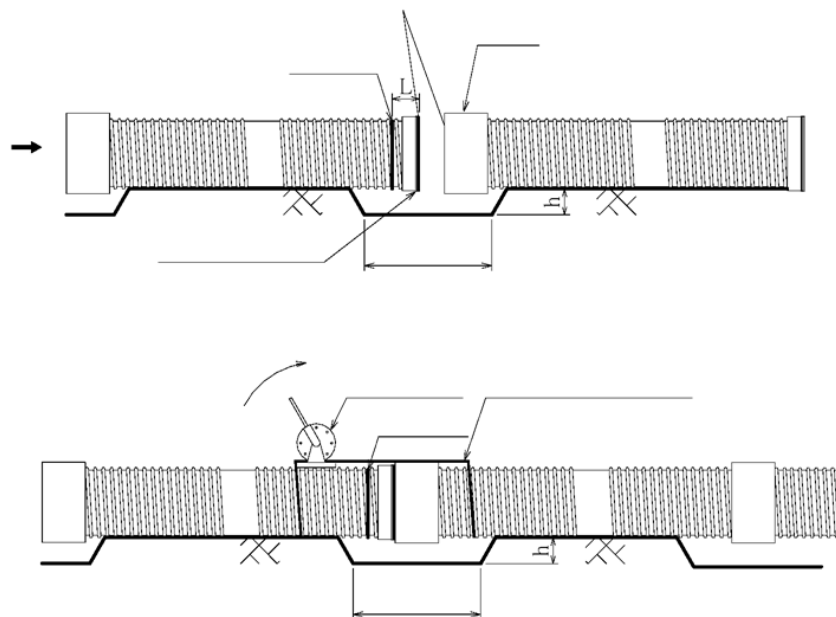

Figure 6 – Bell Holes and Pipe Joint Assembly
3. Dig a bell hole in the bedding as shown in Figure 6 below. It is noted that the bell hole depth “h” should be 4-inches (100 mm) for 12” to 42” diameter and 6-inches (150mm) for pipe 48” and larger.
6. Joint assembly should be accomplished using a come-along or other device to provide a controlled loading during the assembly process. A strap on the bell and spigot ends should be looped around the pipe and the come-along should be used to bring the two ends together. See Figure 6 below for an illustration of the come-along and strap configuration.